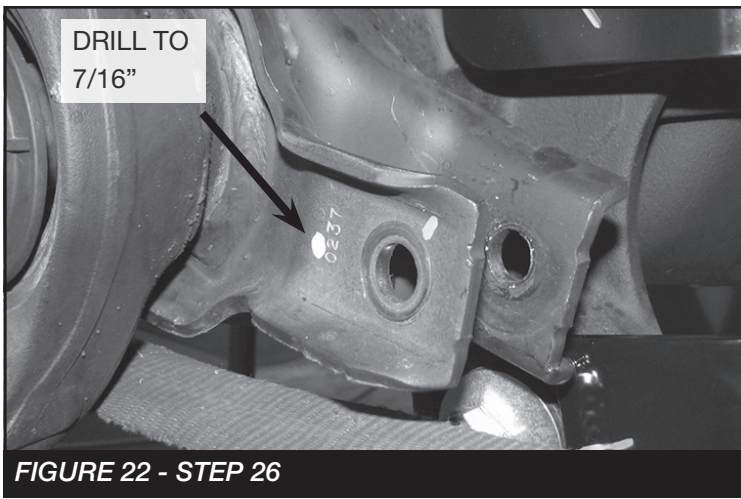

**FIGURE 20 - STEP 24**
24. Install FT30124BK (Coil Spring) using the factory upper isolator. **SEE FIGURE 20**